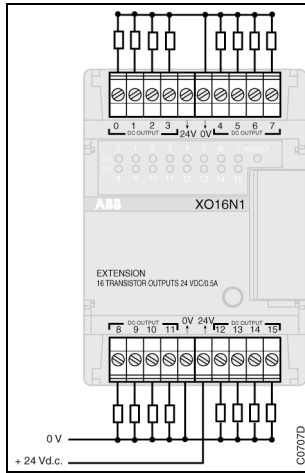

Figure 4-19 : Extension XO 16 N1
3.4. Extension XO 16 N1 (see Figure 4-19)